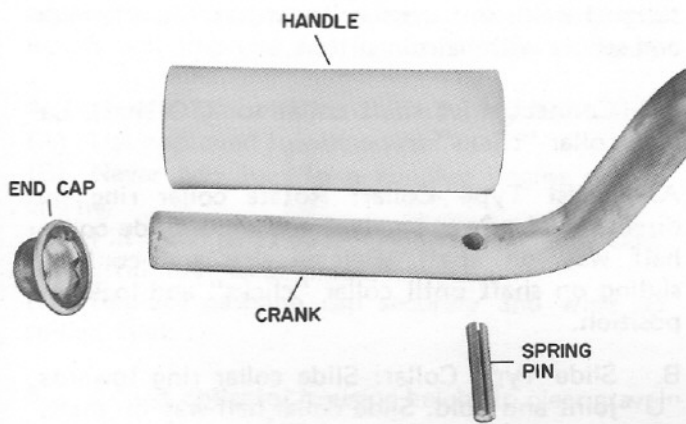

fig 3
4. Insert spring pin, item 84, into crank, item 66. Assemble handle grip and stud cap, items 86 and 87. See fig 3.
5. Position second hose clamp, item 82, over rubber connector. Position crank into both holes of crank support and into connector. Secure with hose clamp.